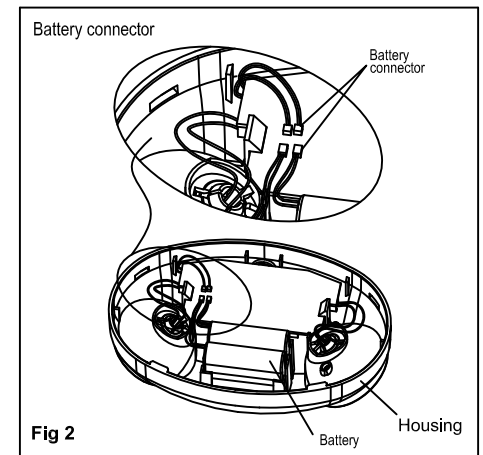

Fig 2
5. Plug battery male connector into female connector of wire harness from PCBA (see Fig 2).